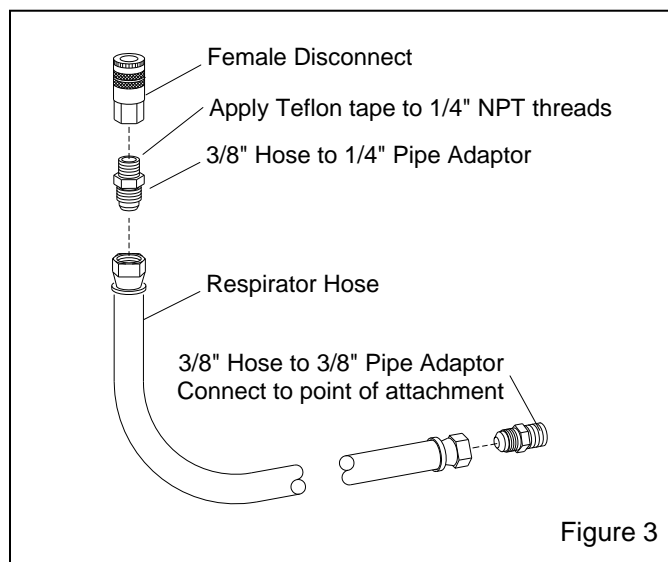

Figure 3
3.4.2 Apply Teflon tape to the 1/4" NPT threads on the 3/8" hose to 1/4" pipe adaptor as shown in Figure 3, and connect it wrench-tight to the female disconnect.